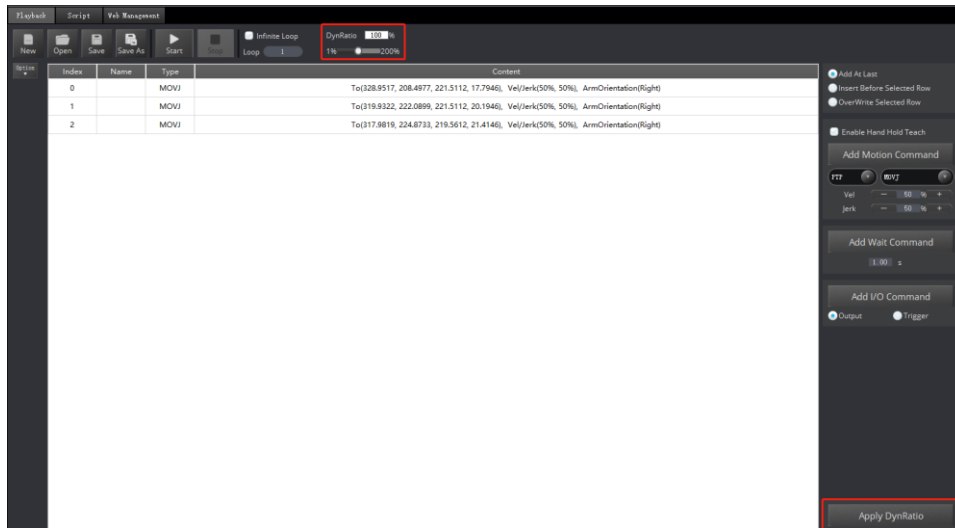

Figure 6.13 Modify the speed of all saved points at the same time
- If modifying the speed of all saved points at the same time is necessary, you can drag **DynRatio** to modify, as shown in Figure 6.13